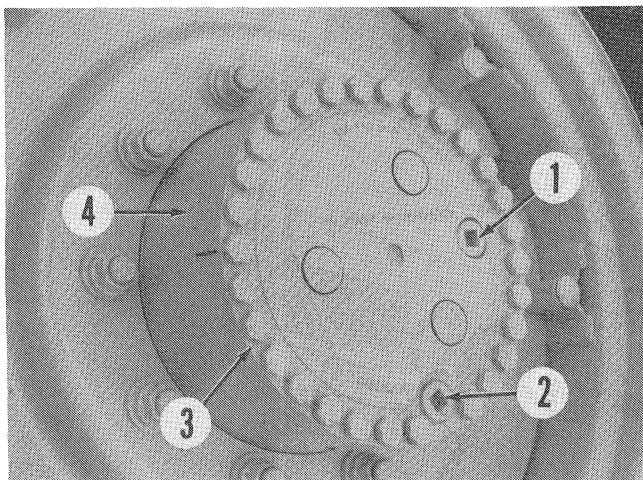

Fig. 15—Prior to removing planetary unit, scribe a line on planetary cover (3) and hub (4) for alignment when reassembling.
11. PLANETARY ASSEMBLY. To remove, first raise and support front axle using suitable stands. Remove front wheel. Remove drain plug (2—Fig. 15) and drain oil from planetary housing. Scribe a line on planetary cover (3) and hub (4) for alignment pur-
Apply sealing compound to mounting surface of planetary carrier. Reinstall carrier aligning match marks (Fig. 15) made during removal. Tighten mounting cap screws to 63 ft.-lbs. (86 N·m). Refill planetary housing with SAE 85W-140, GL5 gear lubricant.